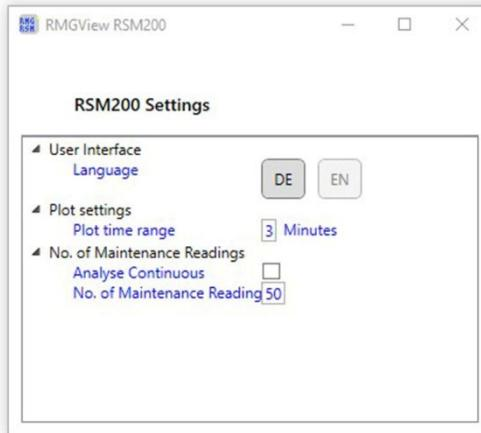

Figure 31: Settings window – Diagnostic Settings
1. Select Diagnostic settings. The setting options open (see figure 31).